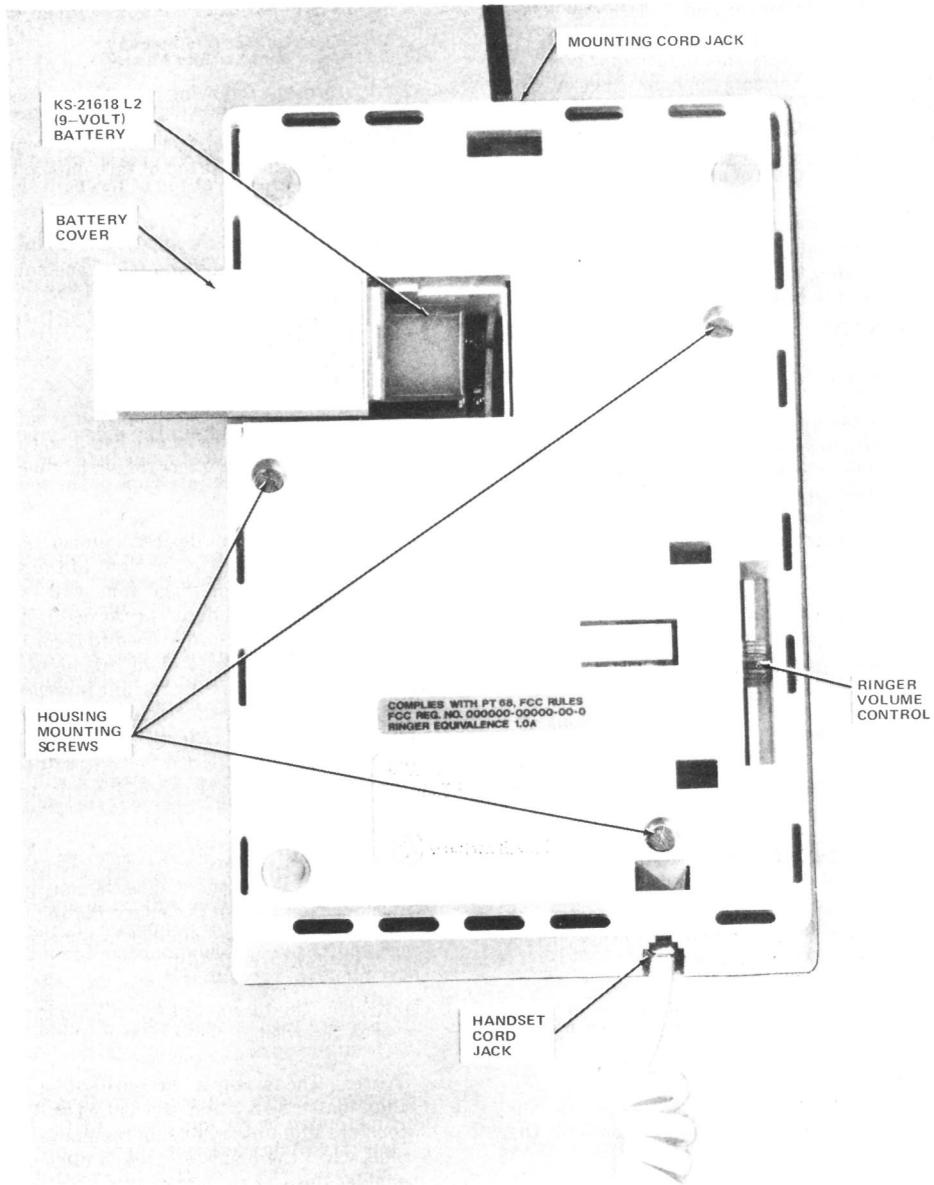

Fig. 3—5001T01A Telephone Set, Bottom View
the necessary connections (Fig. 3). Place the battery in the battery compartment and replace the cover.
3.03 Plug one end of the mounting cord (D4BU) into the modular jack in the rear of the set and the other end into the 625-type modular connecting block. Connect the handset cord to the set (Fig. 3).
- (1) Dial the appropriate code for ringback to test the telephone set tone ringer. Move the ringer volume control lever (Fig. 3) on the bottom of the set to check variation of volume. There is no provision for ringer cutoff using the volume control.
- (2) Call the CO dial test line, when connected press the dial buttons in sequence 1 through 9, *, 0, and # verifying that correct signals is returned from the CO.